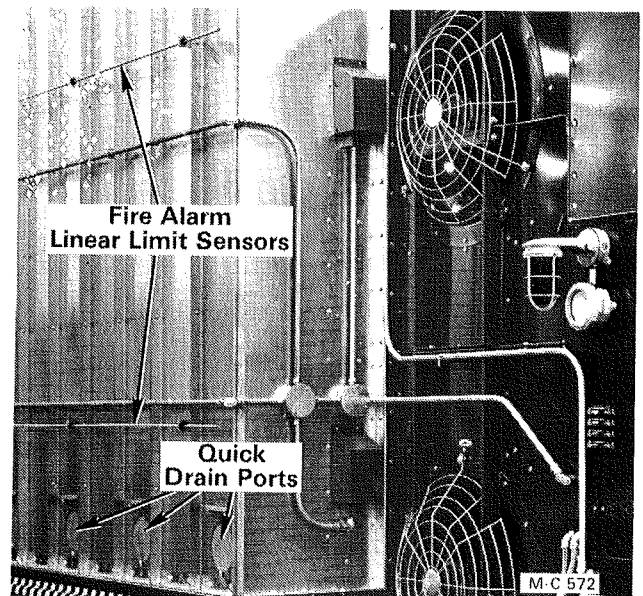

Figure 28 - Optional Safety Control Fire Alarm
- The optional safety control fire alarm is activated when the electric power to the dryer is ON. The linear limit sensors on the outside of the dryer screens monitor the exhaust air temperature, see Figure 28. The temperature operating range of the sensors is pre-set and is not adjustable.